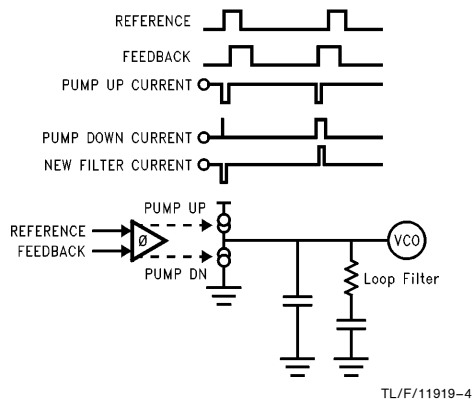

FIGURE 3-2. Phase Comparator/Charge Pump
- Figure 3-2 Phase Comparator Charge/Pump
The phase comparator compares the difference in clock edges between the internal N and R counter outputs. The difference results as either a charge source (pump-up), or charge sink (pump-down). The amount of charge is directly proportional to the phase difference (see *Figure 3-2*). The phase comparator controls the VCO by comparing the phase of a derived signal from a known accurate reference source such as a crystal or an external reference signal. In genlocking situations, the reference source may be a constant stream of pulses such as an external HSYNC.